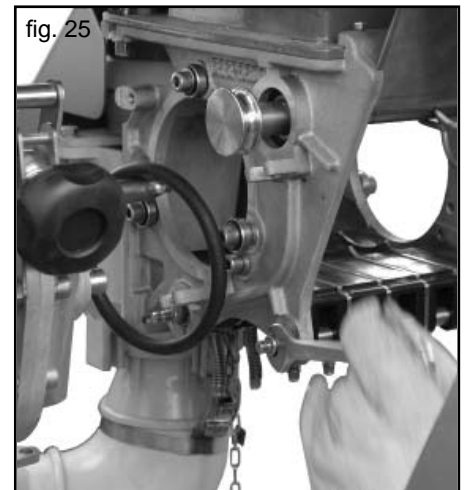

fig. 25
- 1) In order to disassemble the feeler unit, loosen the four nuts of the axles (front and back) (Fig. 25), using a 13 mm spanner ...